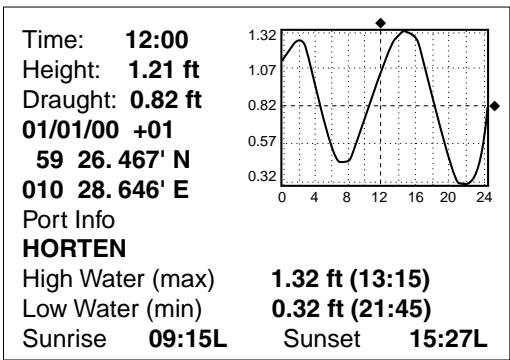

Figure 11-10 TIDE window
- Press the soft key GO TO. Soft key titles change as in Figure 11-10. If GO TO key is not displayed, press the cursor pad.